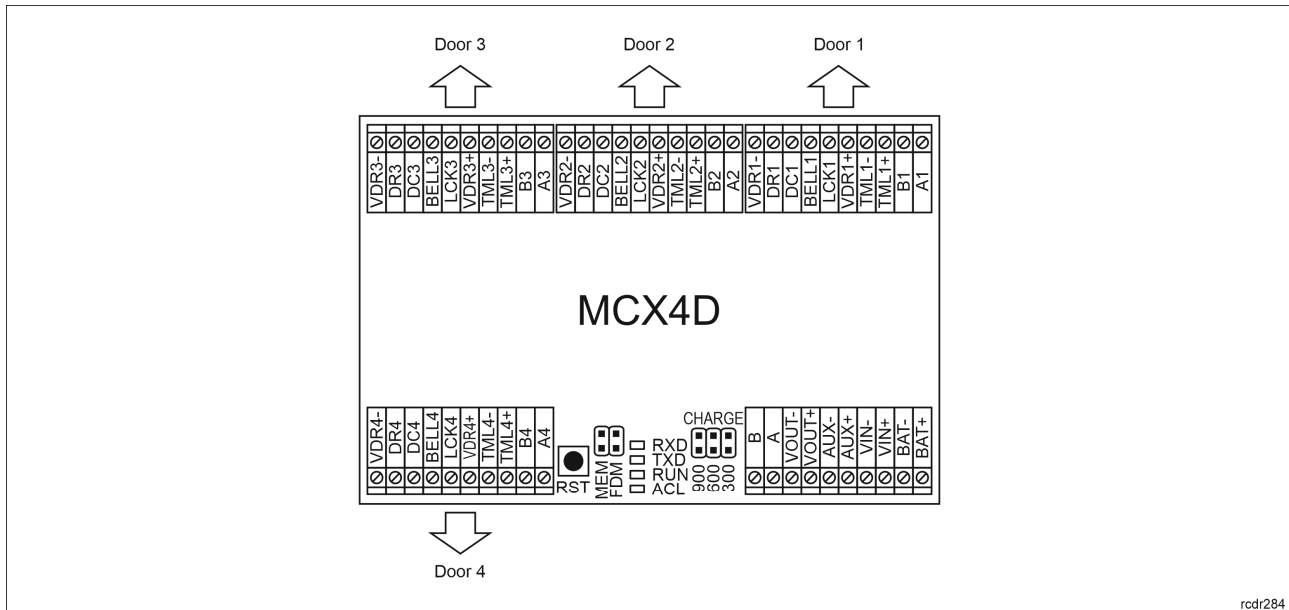

Fig. 2 MCX4D expander
MCX4D enables battery charging with 0.3A, 0.6A or 0.9A current up to the level of voltage supplied to the expander (nominal 13.8VDC). The current is selected with jumpers (fig. 2). When battery voltage drops to approximately 10V then it is disconnected from expander. The battery is reconnected when the 13.8V supply to expander is restored. In order to ensure battery charging up to 80% level within 24h (according to EN 60839 standard) following current settings must be applied:
In RACS 5 v2 system the expander can be installed at site without previous configuration. According to AN006 application note, its address and other settings can be configured from VISO v2 management software and during such configuration the access to its service contacts (fig. 2) is not required.
2. Remove jumper from MEM contacts (fig. 2) if it is placed there.
- 2. Place jumper on MEM contacts (fig. 2).
2. Place jumper on MEM contacts (fig. 2).